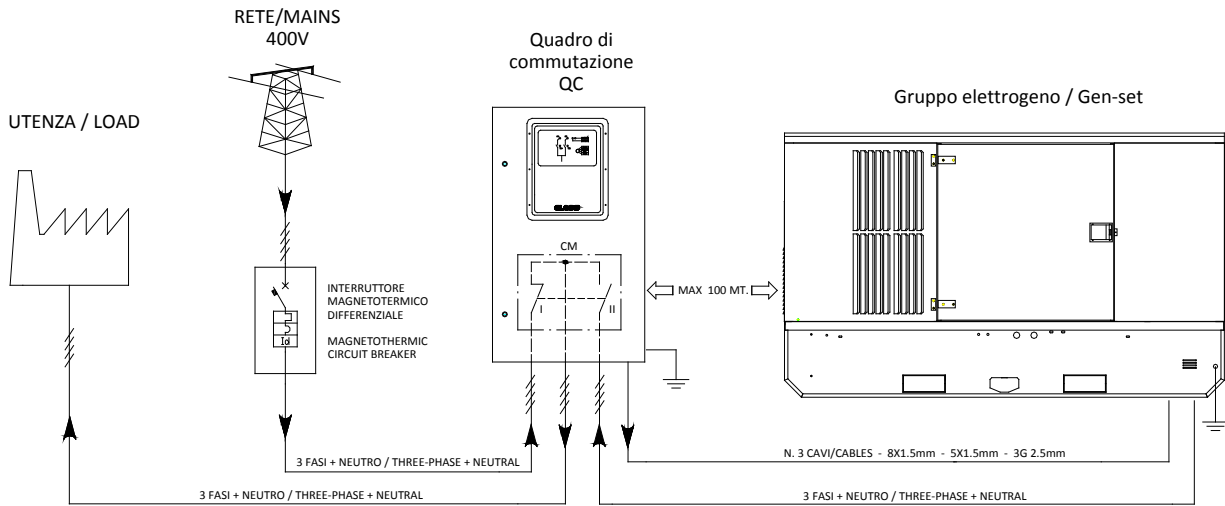

Fig. 1 - QC Block diagram
G.S. Key position	ATS Switch position (Fig. 1)